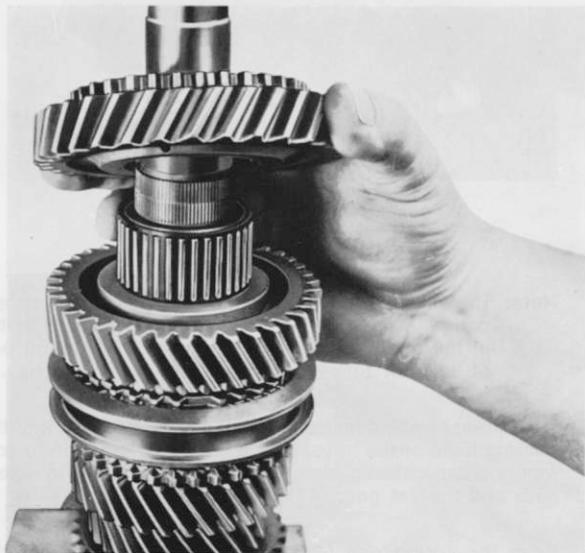

Fig. 34
11. Slide the needle cage (416) and reverse gear wheel (418) with the dog teeth upwards onto the shaft (Fig. 34).